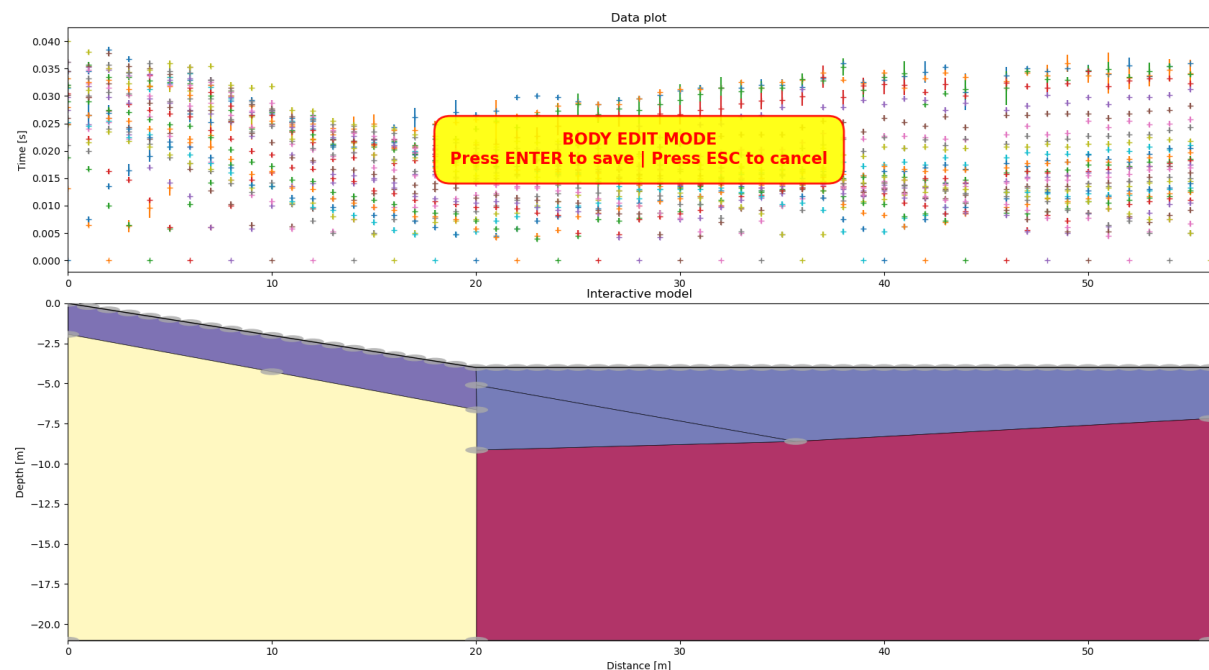

Fig. A2: Model after splitting the upper right body (the velocity of both partial bodies are the same, therefore the colors are the same).
- 1) Separate the upper right blue body through a diagonal line (Fig. A2).